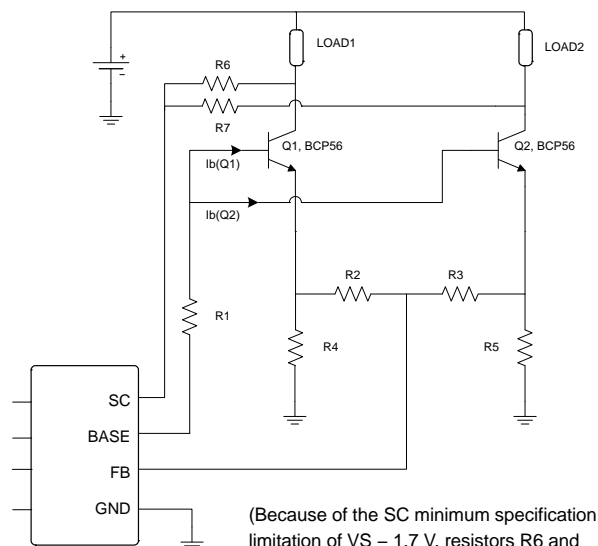
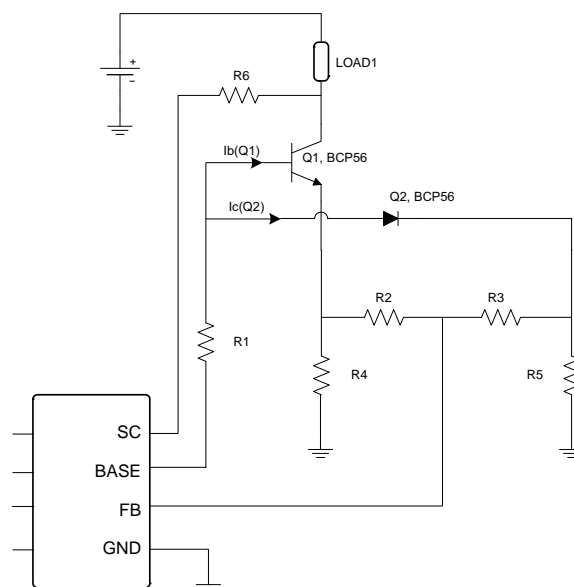

Figure 19. Driving Multiple Strings
Figure 21. Open Circuit Equivalent
Figure 19 along with Figure 20 and Figure 21 highlight the use of the NCV7691 device with multiple strings connected to a common drive BASE pin and using external resistors to tie additional strings to a common feedback point (FB). The FB pin will maintain regulation with the FB pin at 152 mV.
It shows the change in BASE drive which occurs with an open circuit in one of the strings. The drive current out of BASE changes from $(I_b(Q1) + I_b(Q2))$ to $(I_b(Q1) + I_c(Q2))$ as regulation will try to maintain in the loop to get 152 mV on FB. Figure 21 shows the equivalent circuit when an open load occurs.